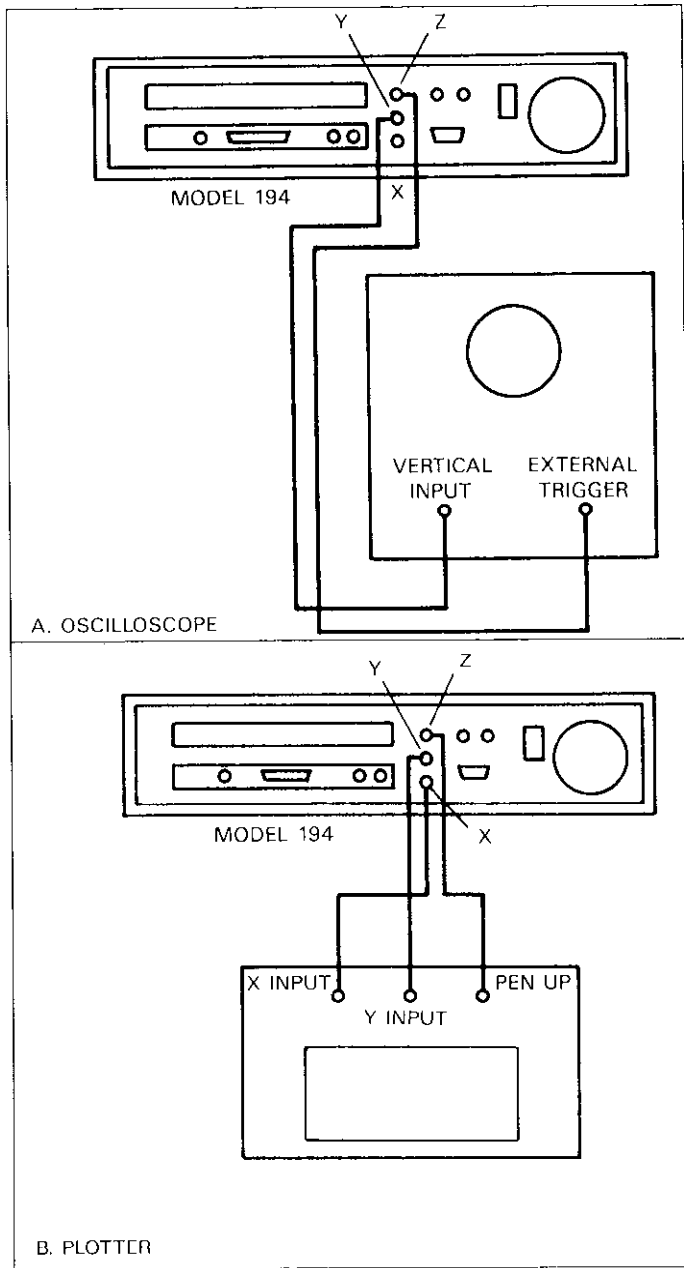

Figure 3-27. Typical Digital Oscilloscope Connections
The XY analog output is used to drive the graphing device regardless of the plot mode selected. Figure 3-27 shows typical connections for the oscilloscope and plotter modes. With the oscilloscope mode in (A), the Y output is used to drive the vertical input of the scope, while the Z output is connected to the external trigger input. With the plotter in (B), the X and Y outputs drive the X and Y inputs of the plotter, while the Z output provides a pen up signal for the plotter.